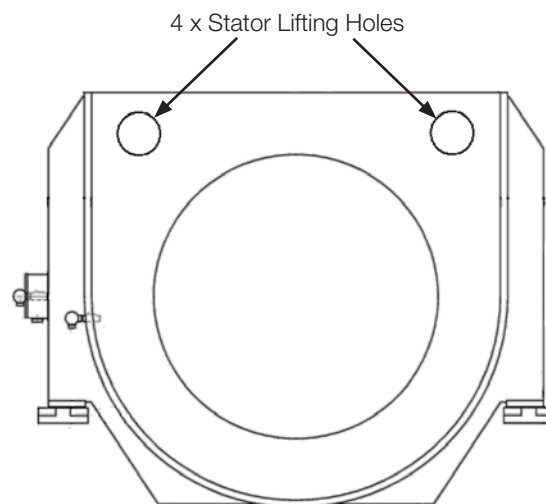

Figure 6-1: Typical Handling of Motor without a Base
- Lift the stator using all 4 lifting holes provided and shown in Figure 6-1.